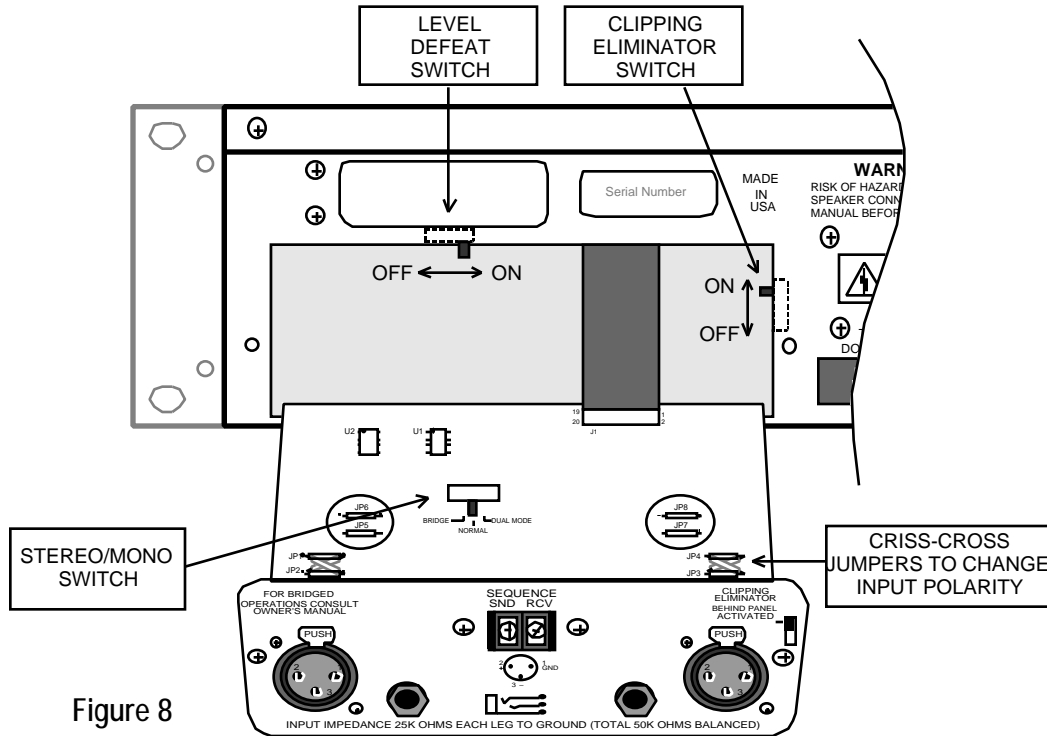
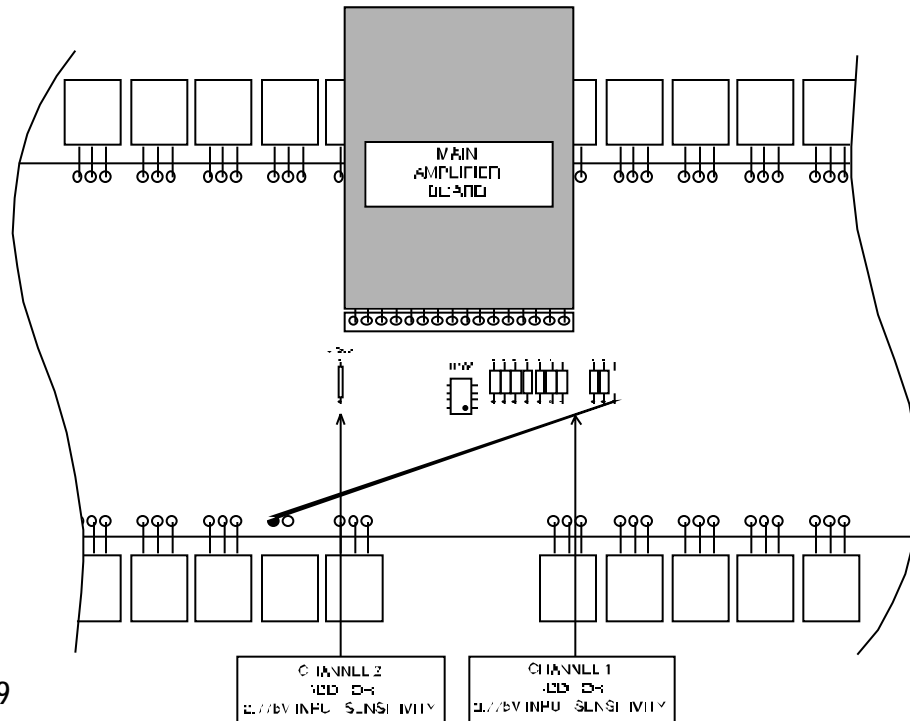

Figure 8
Figure 9
4. See Figure 8 for the locations of the Level Defeat Switch, Stereo/Mono Switch, Clipping Eliminator Switch and Input Polarity jumpers. See Figure 9 for the location of the Input Sensitivity jumpers.
The Stereo/Mono Switch is located on the input board, which is attached to the input panel (see Figure 8). Leave the switch centered for normal stereo operation, move it to the left for Bridged Mono operation, and move it to the right for Dual Mono operation.
The Level controls can be bypassed by moving the switch located just inside the input panel to the left (see Figure 8). This will lock the amplifier into full gain (as if the Level pots were fully clockwise). Moving the switch to the right will return the Level controls to normal operation.
The input sensitivity of the amplifier is set at the factory to 1.5VRMS for rated output. To increase the sensitivity by 6dB to 0.775VRMS, simply install jumpers JP100 (CH 1) and JP200 (CH2), which are located on the Main Amplifier Board (see Figure 9).
The XLR input connectors on the pm700 / pm950 are shipped from the factory with pin 2 hot (+), as indicated on the rear panel. The polarity of the balanced inputs can be reversed by changing four jumpers located on the Input Board. Cross-wire JP3 and JP4 to change the input polarity of CH 1 and cross-wire JP1 and JP2 to change CH2 (see Figure 8).
The clipping eliminator circuit can be activated by moving the switch located just inside the input panel to the up position (see Figure 8). Moving the switch down will return the Clipping Eliminator to normal operation.